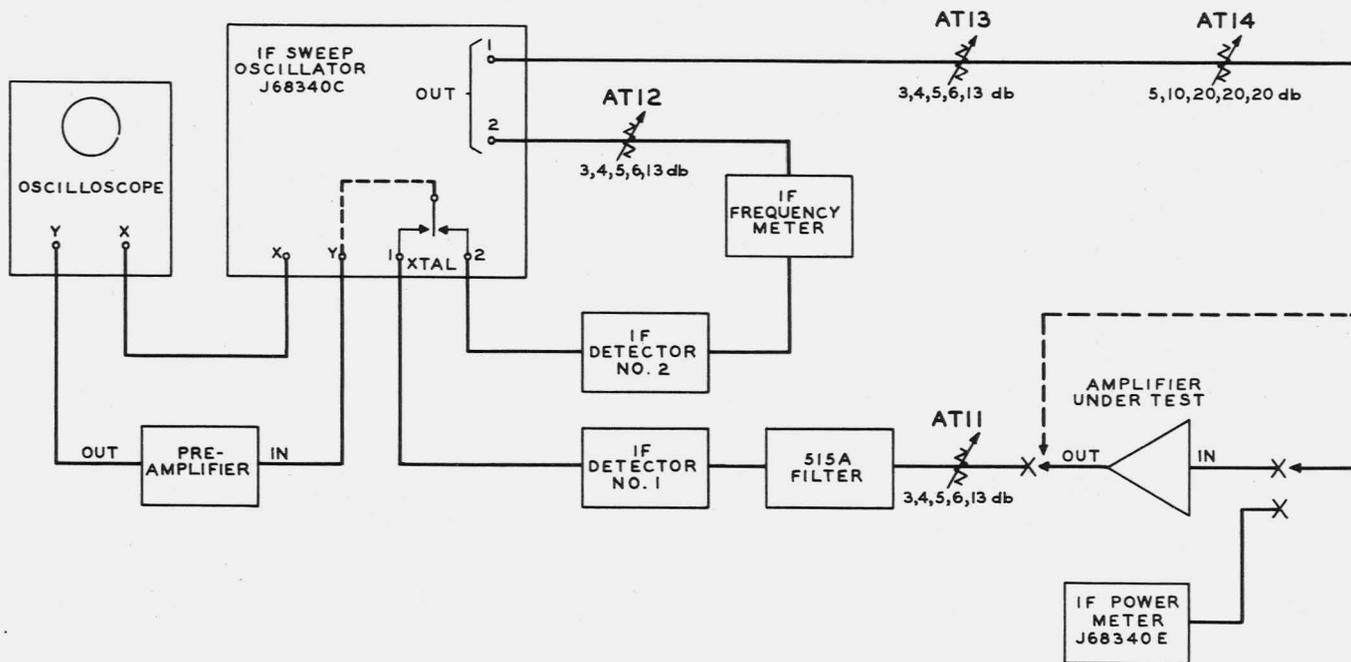

Fig. 13 - Transmission Measurement Test Setup
- (1) Set up apparatus as in Fig. 13.